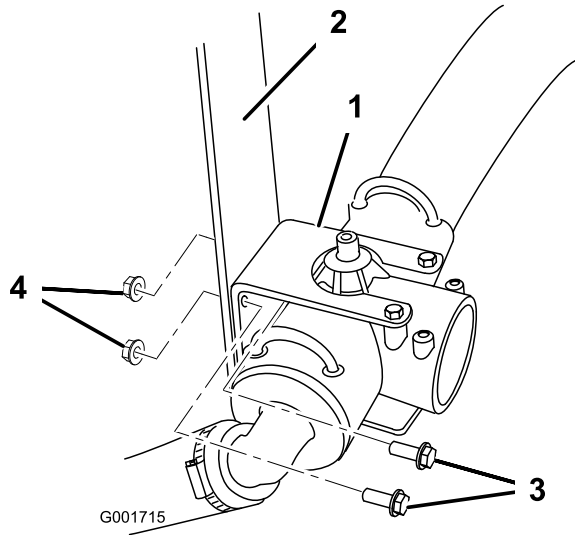

Figure 6
2. Remove the two bolts and two nuts securing the supply tee and supply tee mounting bracket to the vehicle (Figure 6). Retain the fasteners for later use.